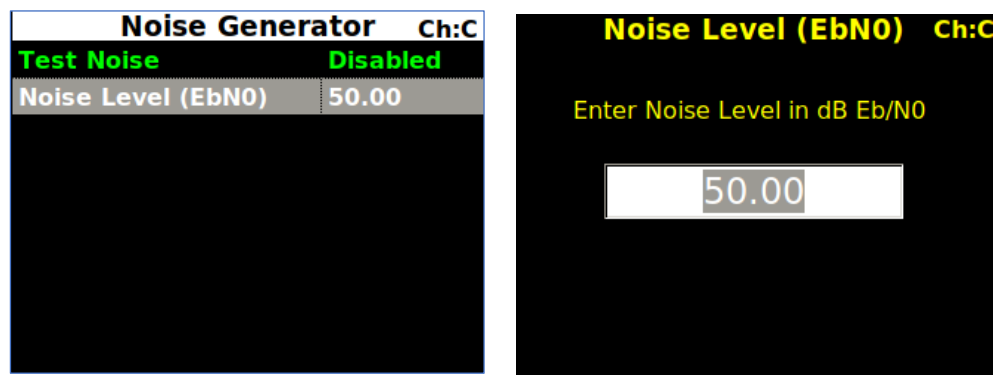

Figure 123: Noise Generator, Noise Level Selection
- Noise Level -Sets the noise level to use in the test in dB E_b/N_0 , as shown in Figure 123